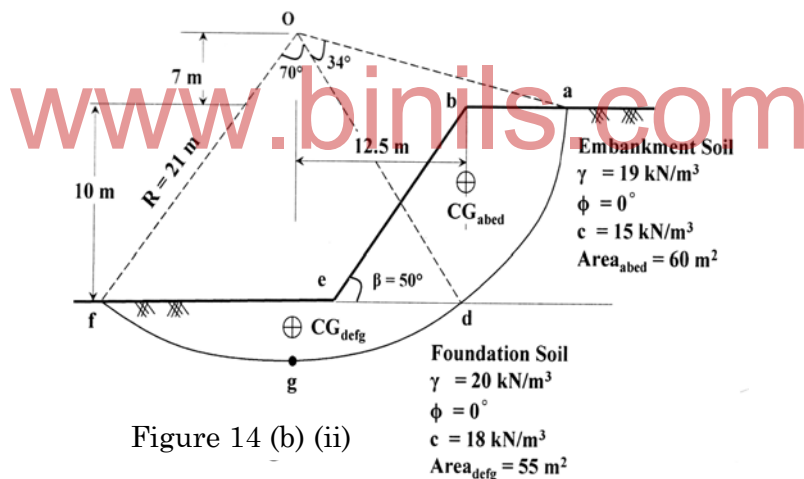

Figure 14 (b) (ii)
- (b) (i) What are the different types of solid waste landfill geometry with neat sketches? (3)
- (ii) Assume you are dealing with a 10 m high, 50° angle slope shown in Figure 14 (b) (ii), which consists of a silty clay embankment ($\gamma = 19$ kN/m³, $\Phi = 0^\circ$, and $c = 15$ kPa, area = 60 m², center of gravity as indicated) on a silty clay foundation ($\gamma = 20$ kN/m³, $\Phi = 0^\circ$, and $c = 18$ kPa, area = 55 m², center of gravity as indicated).
- (1) Determine the factor of safety with no geotextile reinforcement.
- (2) Determine the factor of safety with a geotextile of allowable tensile strength 40 kN/m (note that with a cumulative reduction factor of 3.0, this is an ultimate strength geotextile of 120 kN/m) placed along the surface between the foundation soil and the embankment soil.
- (3) Determine the factor of safety with 12 layers of the same geotextile placed at equal intervals from the foundation interface to the top of the embankment. Assume that sufficient anchorage behind the slip circle shown is available to mobilize full -geotextile strength.
- (4) How would the problem solutions differ if granular soil were involved? (10)